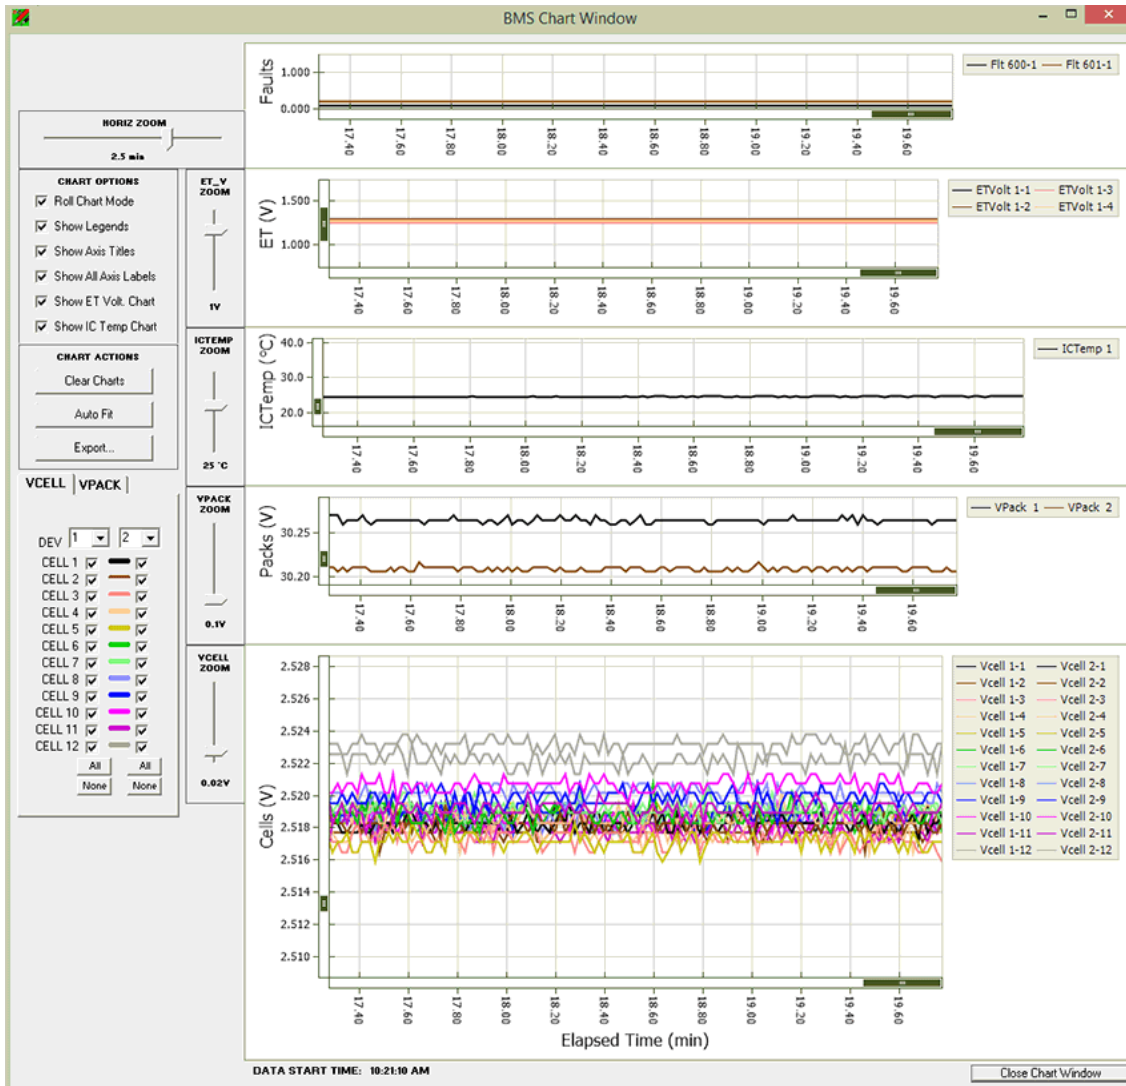

Figure 12. Chart Window
9. Use the **Show Chart** button to view various voltages and status in real time (see Figure 12 on page 13).